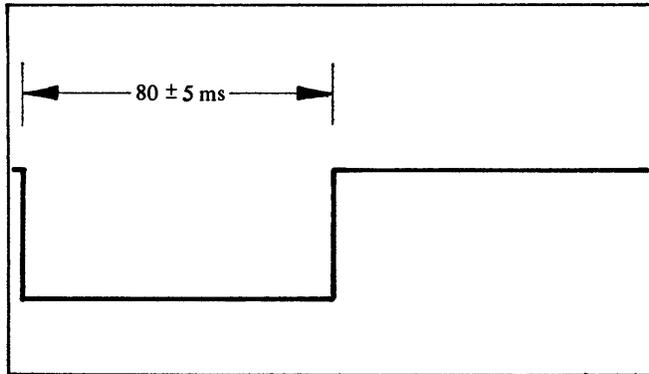

Figure 4-8. Long Servo Gate - Width
11. Adjust R66 on the SCM board to give a pulse width of $80 \pm 5\text{ms}$, as in figure 4-8.